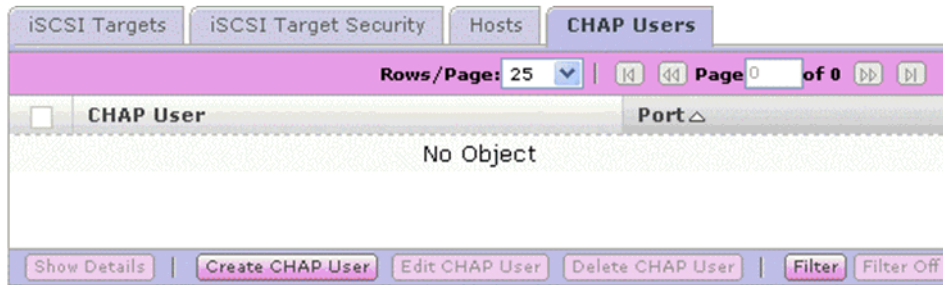

Figure 8-42: CHAP Users Window
1. Select the **CHAP User** tab. The CHAP Users screen appears as shown in Figure 8-42 on page 8-46.